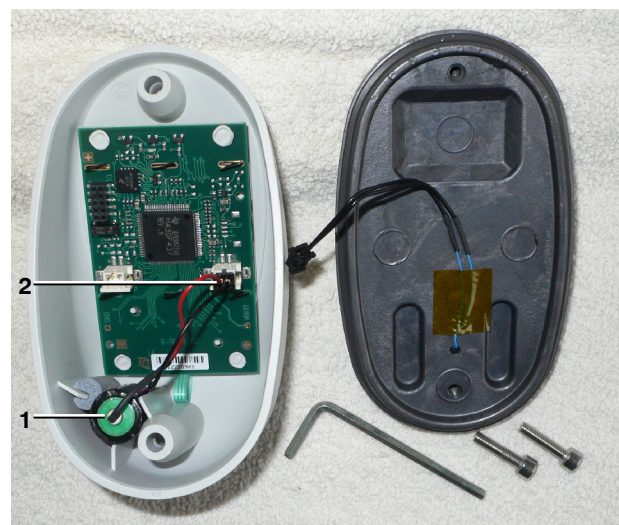

Figure 4 Battery replacement
The battery (1, Figure 4) is placed in the battery compartment. To replace the order, withdraw plug (2) and pull the battery out of the battery compartment. Make sure you use a battery of the same type (BAUER order number 82743).